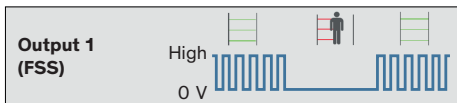

Figure 13: Principal timing diagram for the FSS output
The default logic is Light ON (LO) (Figure 13). When an object enters the safeguarded area (OBJECT DETECTED), the FSS output switches to LOW/GND (0 V). When the object leaves the safeguarded area (NO OBJECT) the frequency starts again.